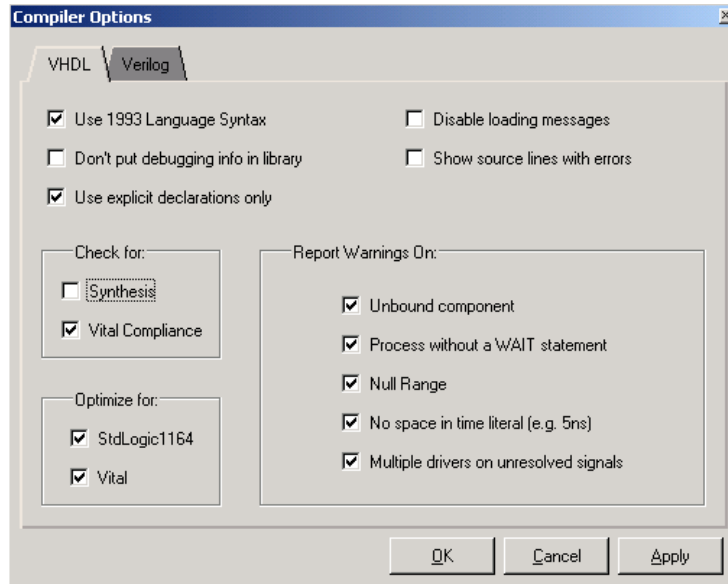

Figure 9-10. ModelSim for Actel's Compiler Options Dialog Box::VHDL
1. **From the Options menu, click *Compile (Main window)* to bring up the Compiler Options dialog box, as shown in Figure 9-10.**